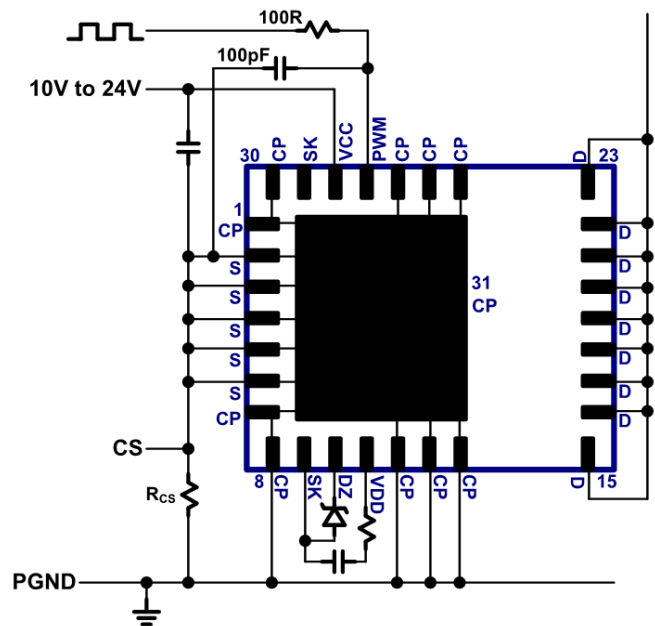

Fig. 25 Current sensing circuit
For many applications it is necessary to sense the cycle-by-cycle current flowing through the power FET. To sense the current flowing through the GaNFast power IC, a standard current-sensing resistor can be placed in between the source and power ground (Fig. 25). In this configuration, all of the components around the GaNFast power IC (C_{VCC} , C_{VDD} , D_Z , etc.) should be grounded with a single connection at the source. Also, an additional RC filter can be inserted between the PWM signal and the PWM pin (100 Ω , 100 pF typical). This filter is necessary to prevent false triggering due to high-frequency voltage spikes occurring at the source node due to external parasitic inductance from the source PCB trace or the current-sensing resistor itself. For increased cooling pad PCB copper area it may be desired to connect CP to the circuit PGND. Fig. 25 shows the components around the GaNFast power IC grounded at the source pins (S) and CP connected to PGND. This allows for all CP pins and CP pad to be connected to a large and continuous thermal copper area without being obstructed by the current sensing resistor. **CP cannot be float. CP must be connected to source (S) or circuit PGND!**